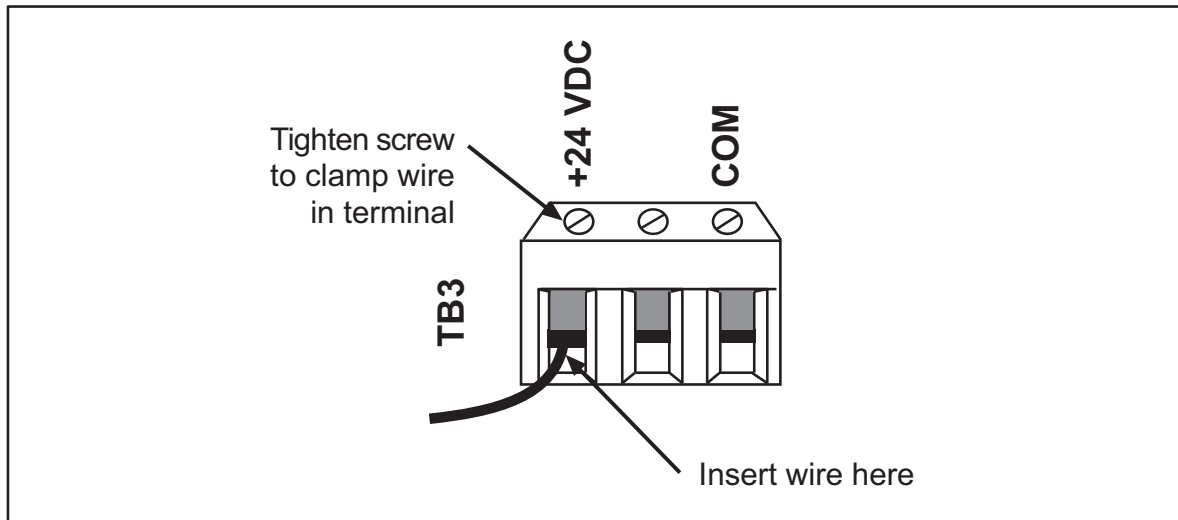

Figure 2-6. DC Power Connections (TB3 on the DSI 2 PC Board)
If you have a 24 VDC version of DSI 2, connect DC power as follows, referring to Figure 2-6.
2. Connect two wires, +24 VDC and COMMON, to TB3 as shown in Figure 2-6.